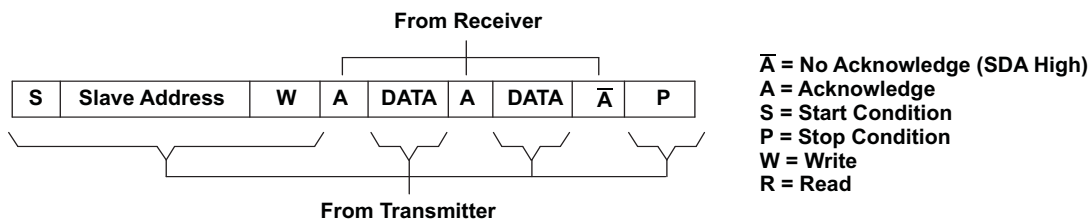
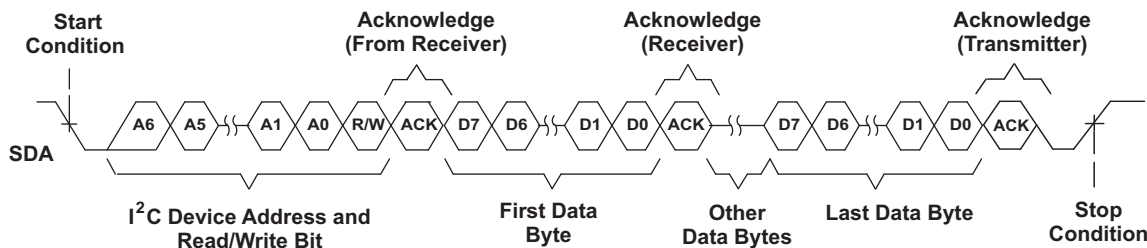
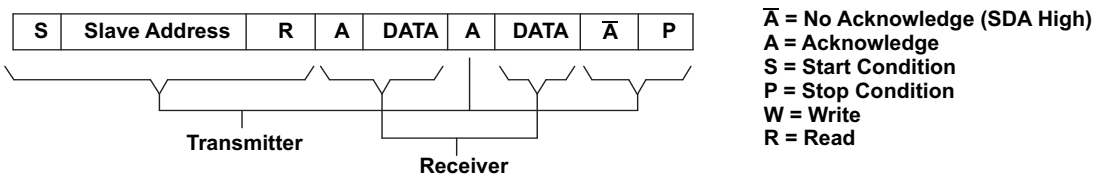
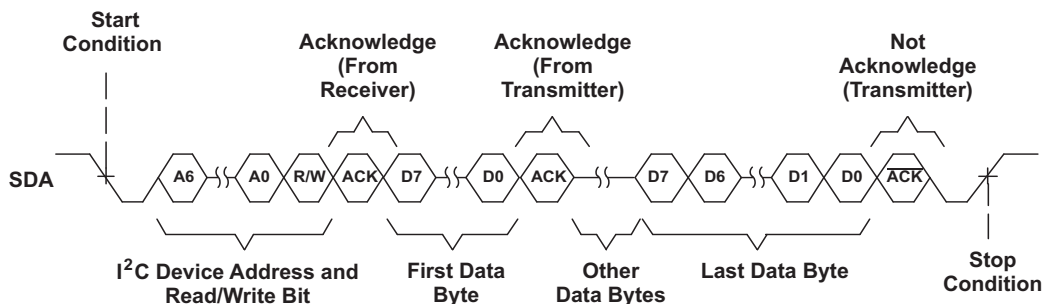

Figure 13. I²C Write Cycle
Figure 14. Multiple Byte Write Transfer
Figure 15. I²C Read Cycle
Figure 16. Multiple Byte Read Transfer
During a write cycle, the transmitting device must not drive the SDA signal line during the acknowledge cycle, so that the receiving device may drive the SDA signal low. After each byte transfer following the address byte, the receiving device pulls the SDA line low for one SCL clock cycle. A stop condition is initiated by the transmitting device after the last byte is transferred. An example of a write cycle can be found in Figure 13 and Figure 14. Note that the THS7327 does not allow multiple write transfers to occur. See the *Example— Writing to the THS7327* section for more information.
During a read cycle, the slave receiver acknowledges the initial address byte if it decodes the address as its address. Following this initial acknowledge by the slave, the master device becomes a receiver and acknowledges data bytes sent by the slave. When the master has received all of the requested data bytes from the slave, the not acknowledge (A) condition is initiated by the master by keeping the SDA signal high just before it asserts the stop (P) condition. This sequence terminates a read cycle as shown in Figure 15 and Figure 16. Note that the THS7327 does not allow multiple read transfers to occur. See the *Example— Reading from the THS7327* section for more information.
The THS7327 operates using only a single byte transfer protocol similar to Figure 13 and Figure 15. The internal subaddress registers and the functionality of each are found in Table 2. When writing to the device, it is required to send one byte of data to the corresponding internal subaddress. If control of all three channels is desired, then the master has to cycle through all the subaddresses (channels) one at a time, see the *Example— Writing to the THS7327* section for the proper procedure of writing to the THS7327.